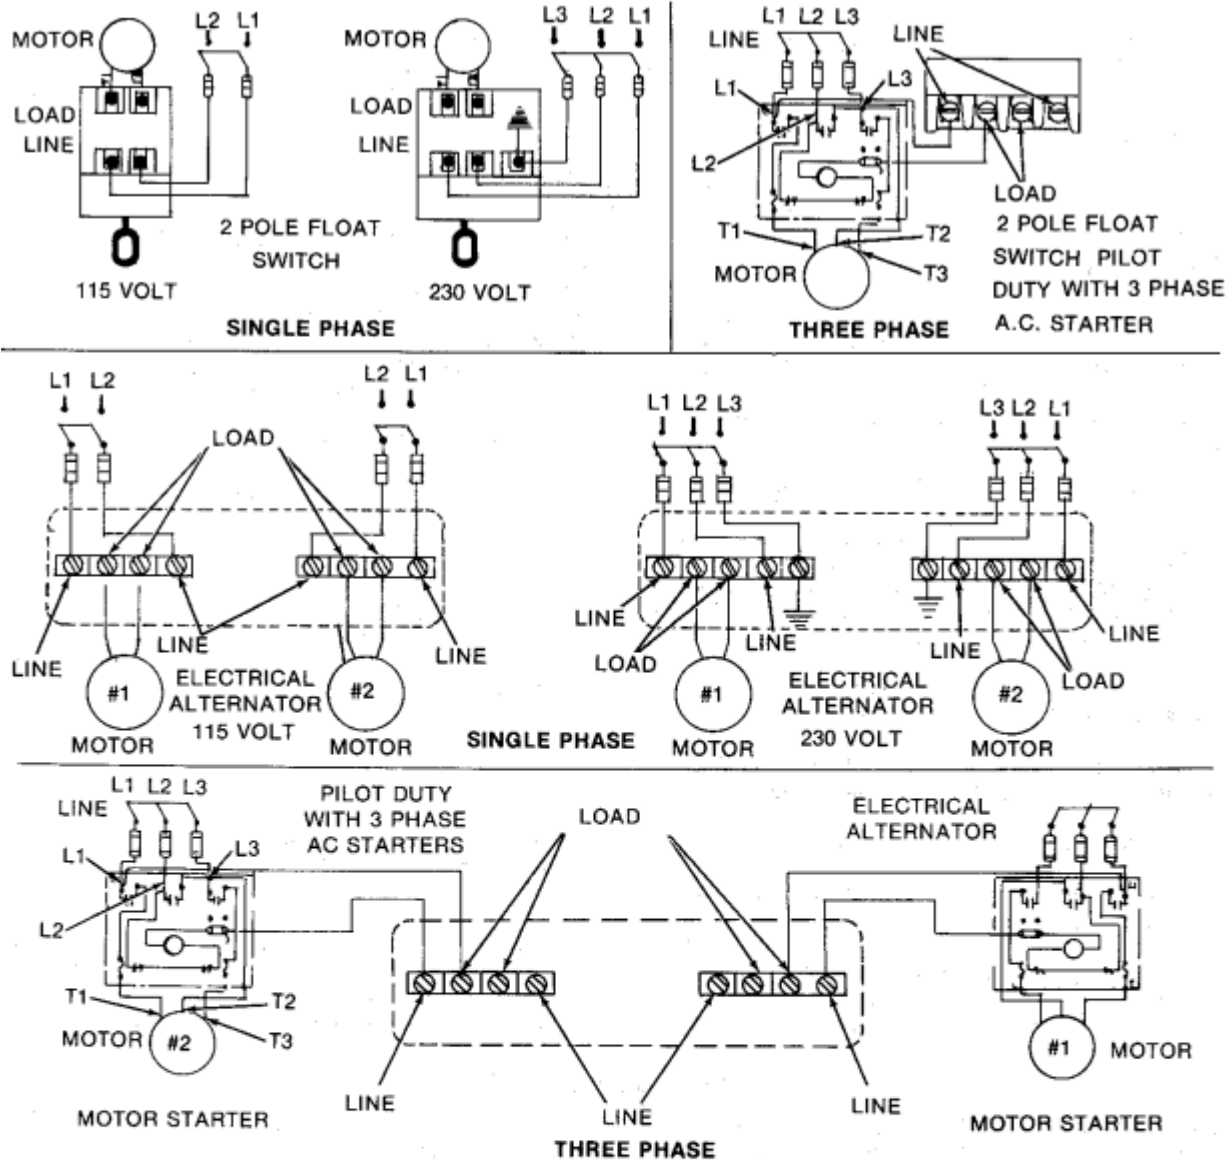

Figure 3. Typical Control Wiring Diagrams
**WIRING:** Connect the electric service to the controls and make inter-control electrical connections when necessary according to wiring instructions accompanying the switches, using conduit and wire sizes as required by local and national codes. Typical wiring diagrams are illustrated in figure 3. A length of flexible conduit should be used adjacent to the motor for convenience in pump or motor repair. Be sure the voltage and frequency indicated on motor nameplates are the same as those of the service provided.